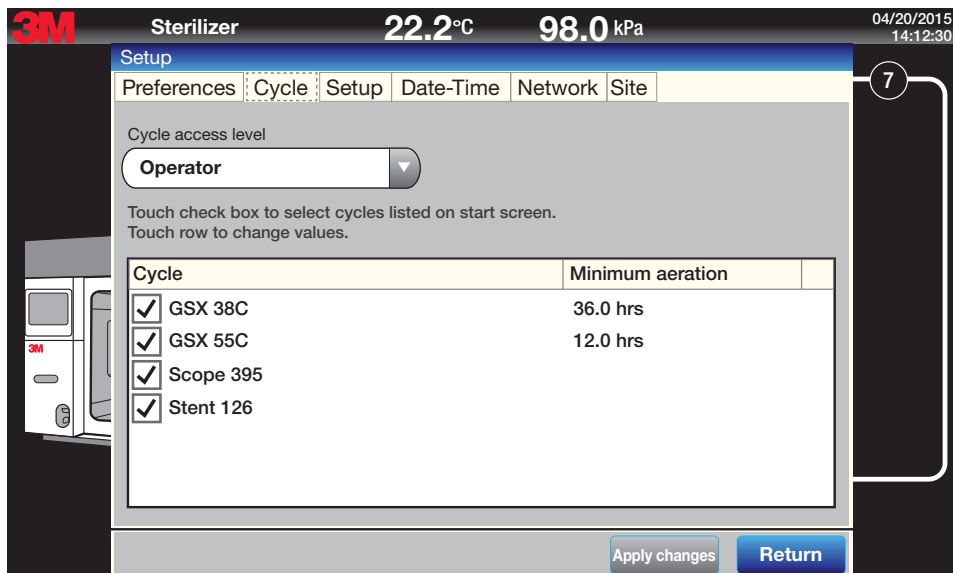

Figure 57.
1. A Supervisor must access **Menu>Site Setup>Setup>Cycle** to enable newly imported cycles on the Operator Cycle Start Screen. Newly imported cycles are not automatically added to the Operator Cycle Start Screen view (Figure 57).